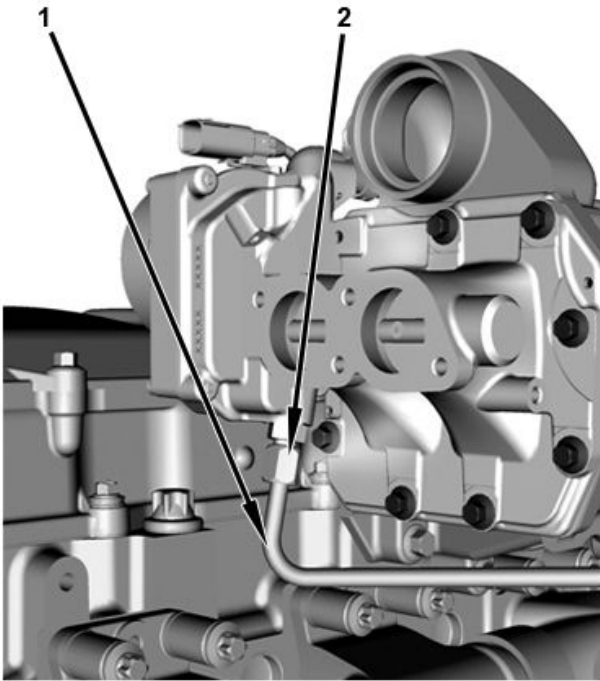

Figure 26. EGR Valve Coolant Supply Tube.
5. Install the EGR valve coolant supply tube (Figure 26, Item 1) and torque the coolant supply tube nut (Figure 26, Item 2) to 18 lb-ft (24 N·m).